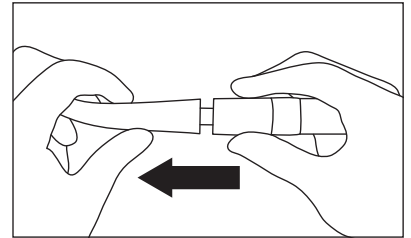

Fig. 8
- 4) Remove the handpiece from the motor (Fig. 8).